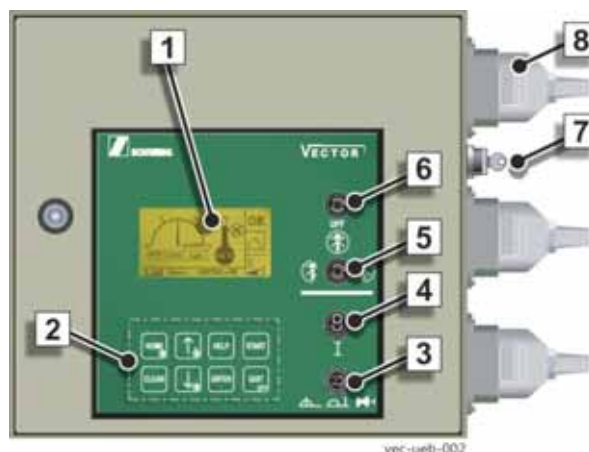

Fig. 78
Activate the "Pumping piston change" operating mode using switch 3 on the switch cabinet of the VECTOR control system (Fig. 78).
<ul style="list-style-type: none"> ➤ Using the operating mode switch (3) (Fig. 78), select the "Local" operating mode ➤ Lower all vertical outriggers until all of the vehicle's wheels are no longer in contact with the ground <p>A horizontal extension of the outriggers is not required.</p>